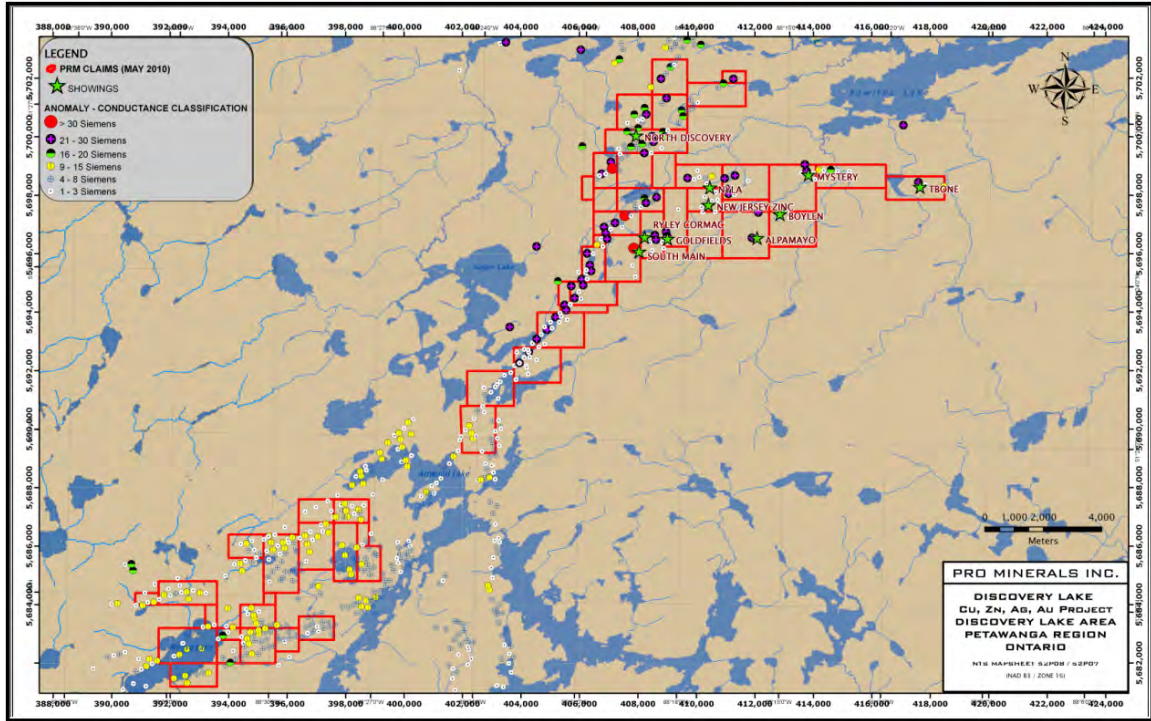

Figure 3: Property Claim Map
- FIGURE 3: PROPERTY CLAIM MAP